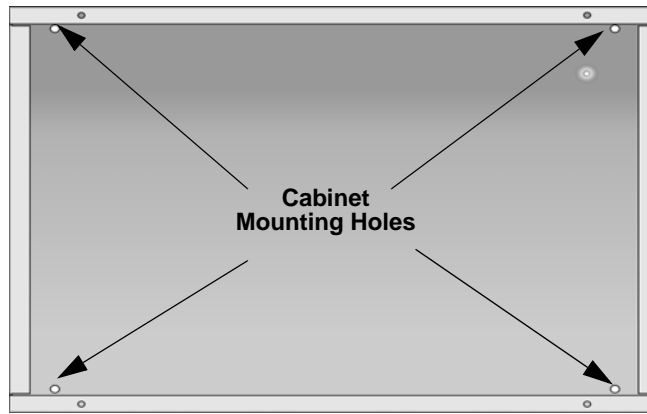

Figure 4-4 RBB Cabinet Mounting Holes
1. Mount the accessory cabinet. See Figure 4-4 for the four cabinet mounting holes.